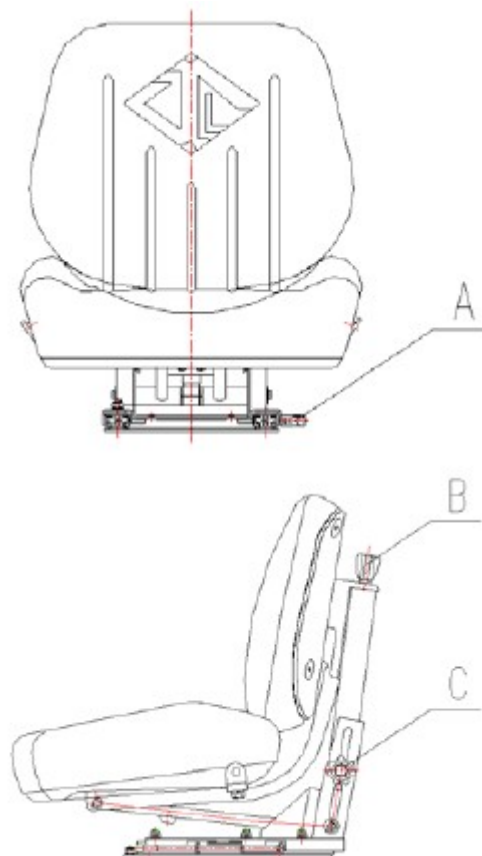

Figure 3-13 - Adjustment of drivers seat
1. The longitudinal position of the driver seat of the AK Series Tractors can be adjusted. During the adjustment, wrench the adjustment handle A at the left bottom of the driver seat outwards (as shown in Figure 3-13 below). At the same time, move the driver seat forward or backward. When the required position is reached, release the adjustment handle.